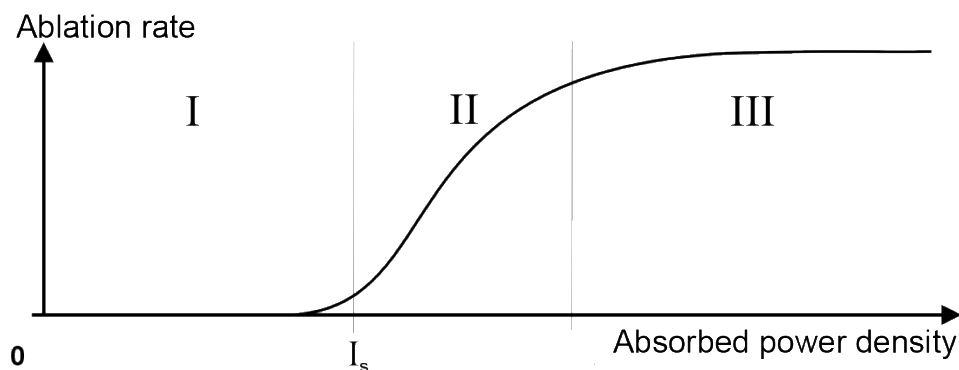

Fig. 55: Tissue effect depending on power density
- the density of the absorbed laser power is lower (ablation threshold I_s in Fig. 55) than necessary for the vaporisation of the water in the tissue. The tissue effect is purely coagulating.
- in other words, the cooling effect by dissipating heat into the surrounding tissue prevents the required temperature for the evaporation of the tissue from being reached (no exceeding of the ablation threshold I_s Fig. 55).
The removal rate (ablation rate in Fig. 55) can be controlled to a certain extent by variation of the power density (range II in Fig. 55).
Further increase in power density (area III in Fig. 55) does not lead to a further increase in the ablation rate, because the tissue is protected from laser radiation by the evaporating ablation products.